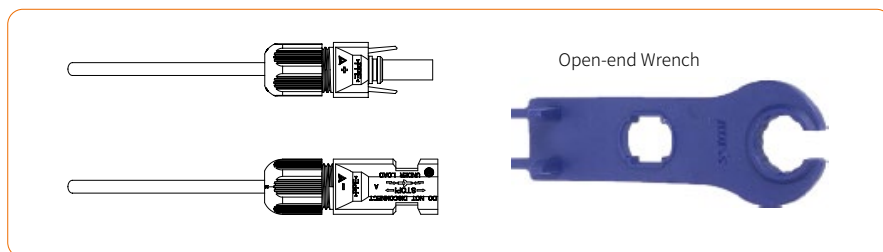

Figure 4-13
⑤ Insert the positive and negative cables into the corresponding positive and negative connectors, pull back the DC cable to ensure that the terminal is tightly attached in the connector.
⑥ Use an open-end wrench to screw the nut to the end to ensure that the terminal is well sealed, as shown in Figure 4-13: